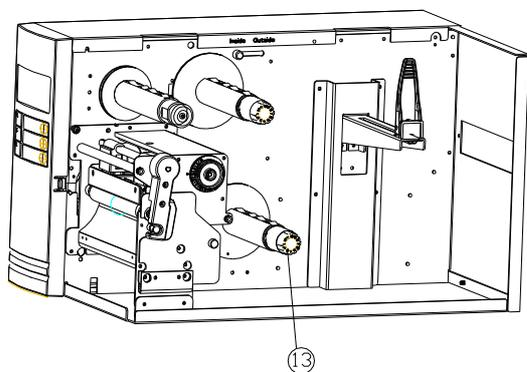
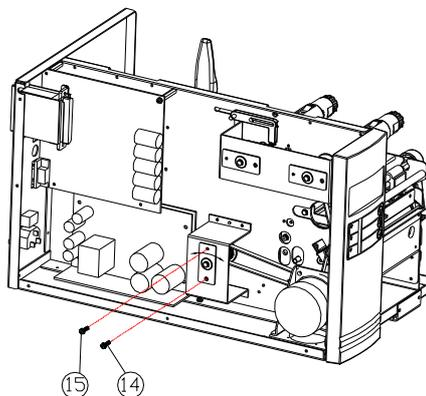

Figure 7.7
Figure 7.8
The tension of the take-up spindle is adjustable by adjusting the screw (13) (Figure 7.7). The Spindle of the dispenser kit must be parallel with the exit media or label. To adjust the position may Loosen the two screws (14) and (15) (Figure 7.8), reposition the spindle and secure the screws.